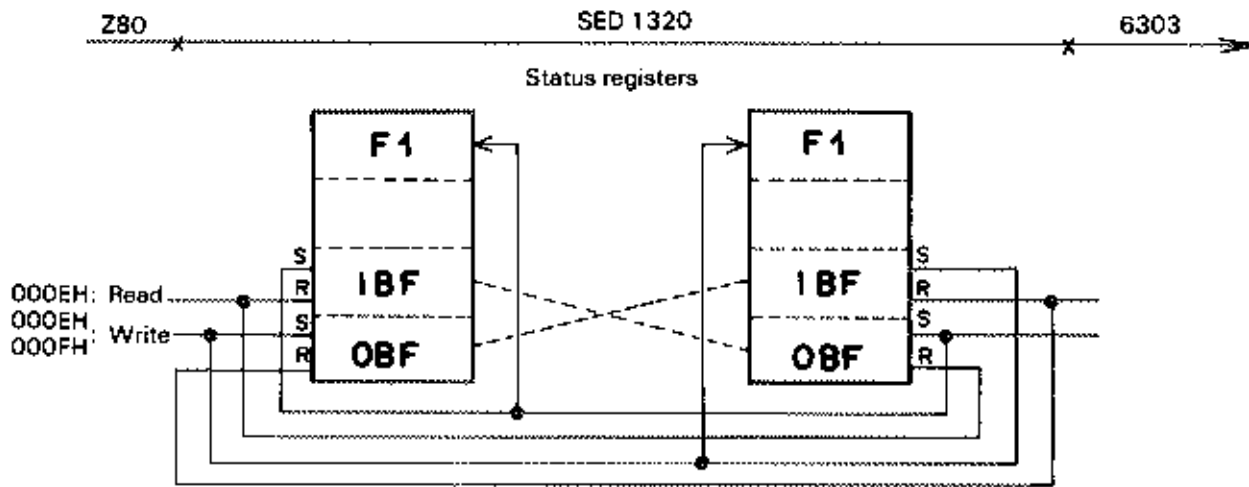

Fig. 2-31 Handshaking Between Z80 and 6303
Handshaking between the Z80 and 6303 is performed via the two status registers in SED1320 which are respectively assigned to the CPUs. Each of the registers has Input Buffer Full (IBF), Output Buffer Full (OBF), and Flag (FI) bits as shown in Fig. 2-31. Data outputs (write) and inputs (read) are controlled by the state of these status bits. The handshaking between the two CPUs is explained below.